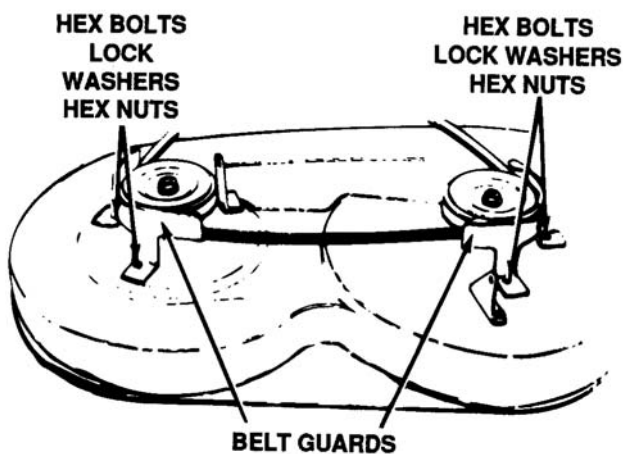

Figure 12-21. Belt Guards
7. Remove the belt guards at each deck pulley by removing the hex bolts, lock washers and hex nuts. See Figure 12-21.